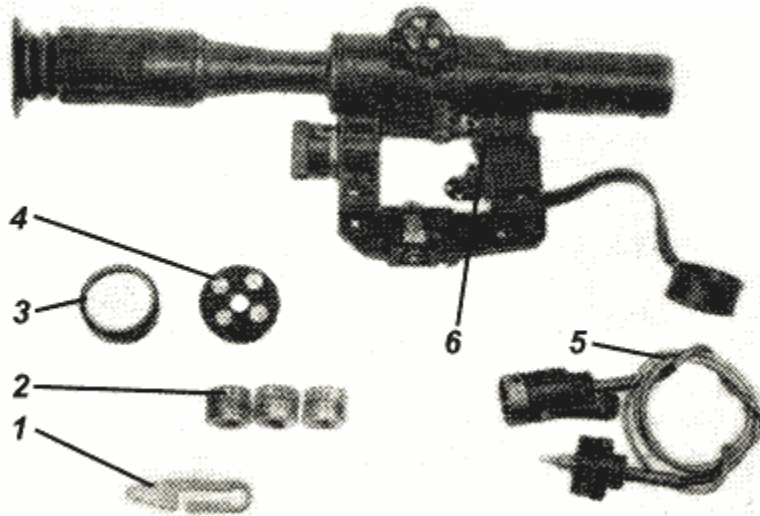

Fig. 11. Sight PSO-1 with individual SPTA set:
1.7.1. Individual SPTA set (Fig. 11) serves for providing normal functioning of the sight and replacement of separate failed parts.